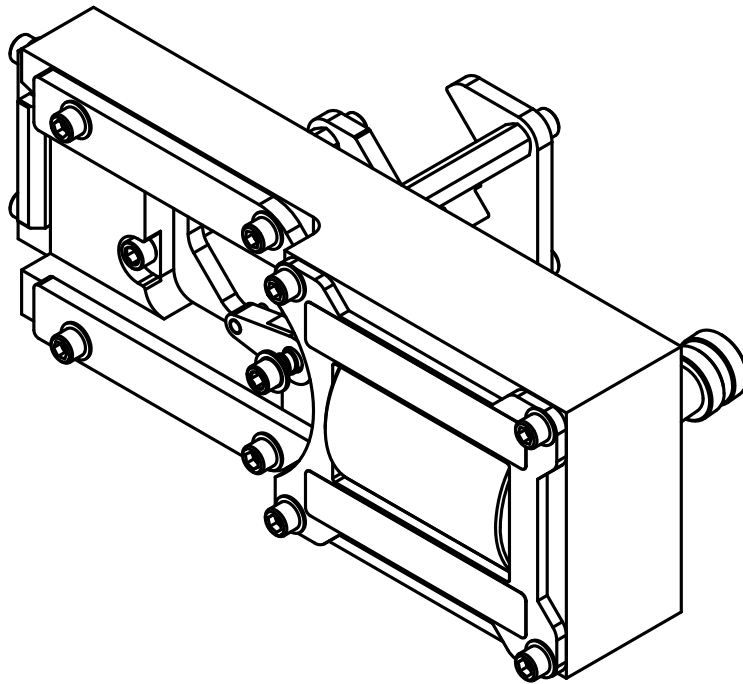

**Figure 13**
13. Apply Loctite® (9) onto new cap screws (2 & 3) as shown in Fig. 13 and tighten the rails and frame back with 35 ft-lbs of torque.